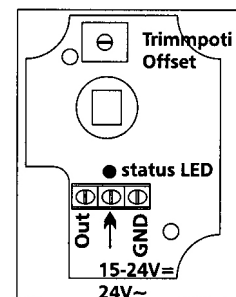

Fig. 4 Wiring Connection and Trimming Potentiometer
- b) Insert the wire in the required terminal location (see Fig. 4) and tighten the screw to complete the termination.